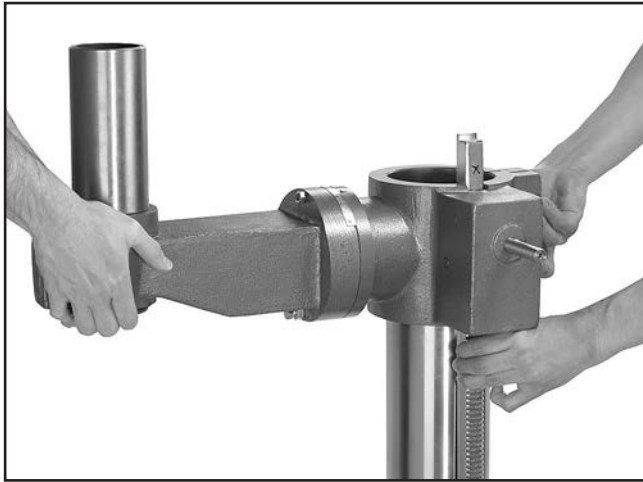

Figure 8. Mounting headstock bracket.
- Place the rack inside the headstock bracket, engage it with the gear inside the headstock bracket, and with help of assistants, slide the rack and headstock bracket onto the column, as shown in **Figure 8**.